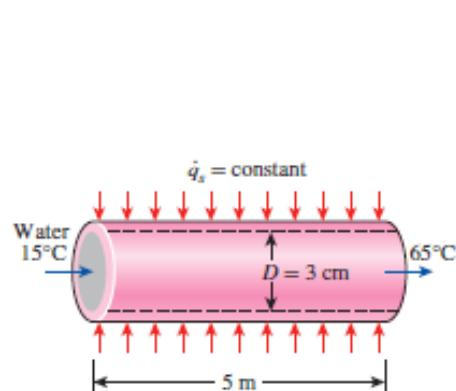

Figure 3
- b) Water is to be heated from  $15^{\circ}\text{C}$  to  $65^{\circ}\text{C}$  as it flows through a 3 cm-internal-diameter 5 m long tube (Figure 3). The tube is equipped with an electric resistance heater that provides uniform heating throughout the surface of the tube. The outer surface of the heater is well insulated, so in steady operation, all the heat generated in the heater is transferred to the water in the tube. If the system is to provide hot water at a rate of 10 L/min, determine the power rating of the resistance heater. Also estimate the inner surface temperature of the tube at the exit.